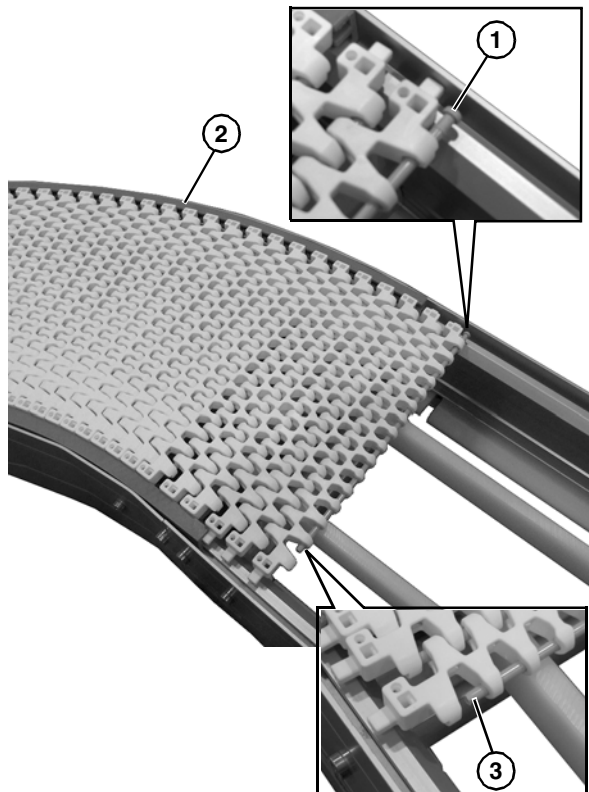

Figure 24
2. Orient the belt direction such that the pin heads (Figure 24, item 1) are on the outside of the belt radius (Figure 24, item 2). The straight portion on the pin (Figure 24, item 3) will be on the inside radius.